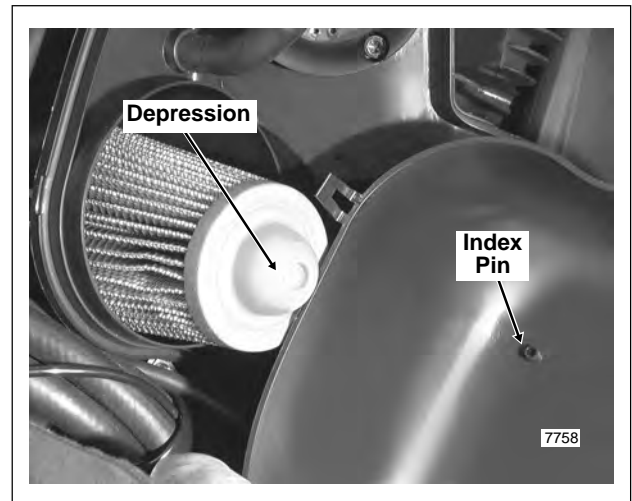

Figure 4-13. Install Air Box Cover
7. Squeeze wings on spring clamp with pliers and push free end of PCV outlet hose over head of gold screw (and spacer) to fix position. See Figure 4-13.